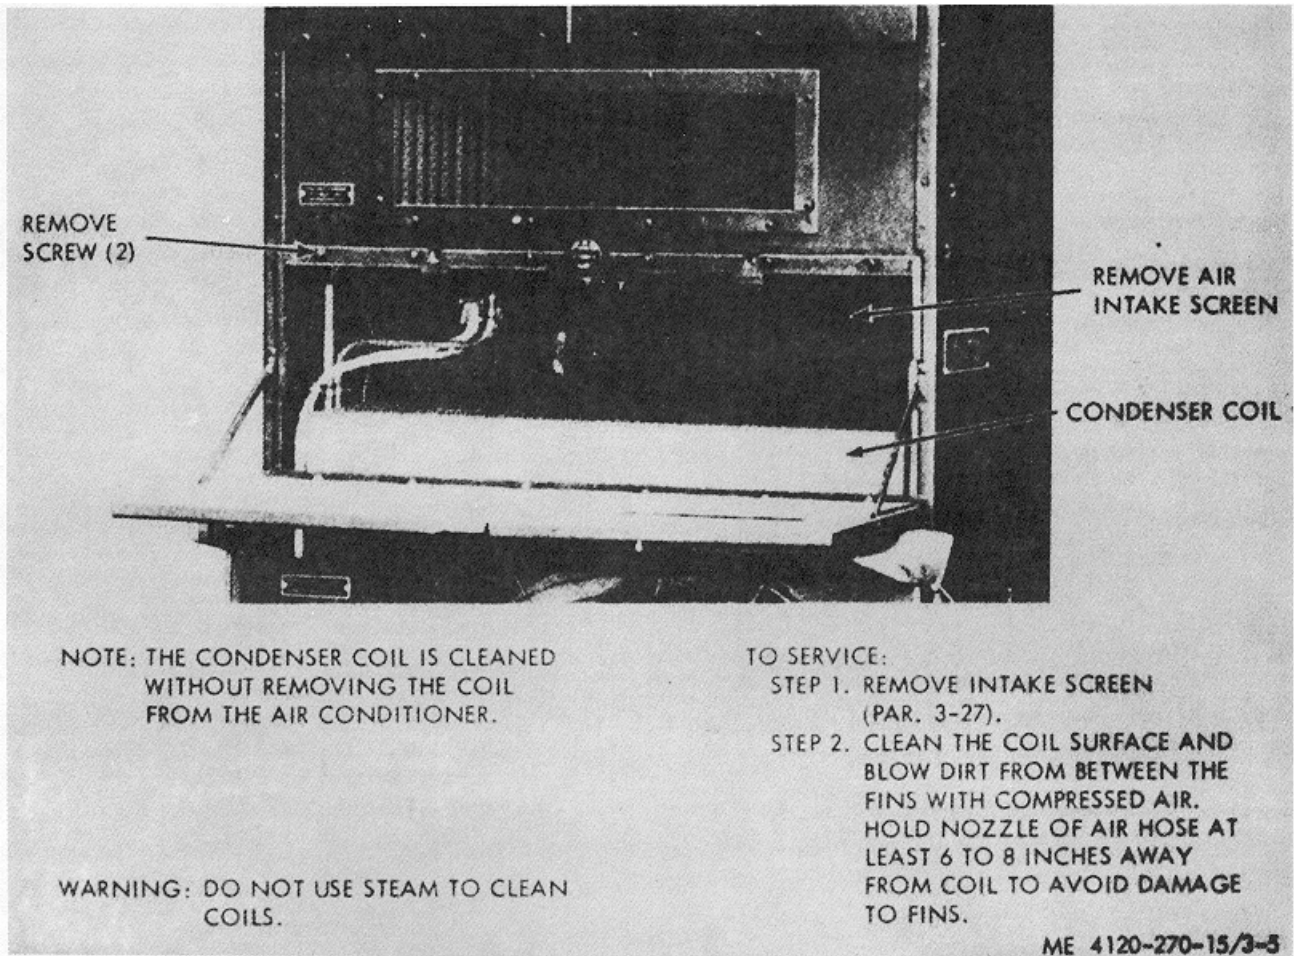

Figure 3-5. Servicing condenser coil.
- b. **Maintenance Procedure.** Refer to figure 3-5 and perform prescribed maintenance service.